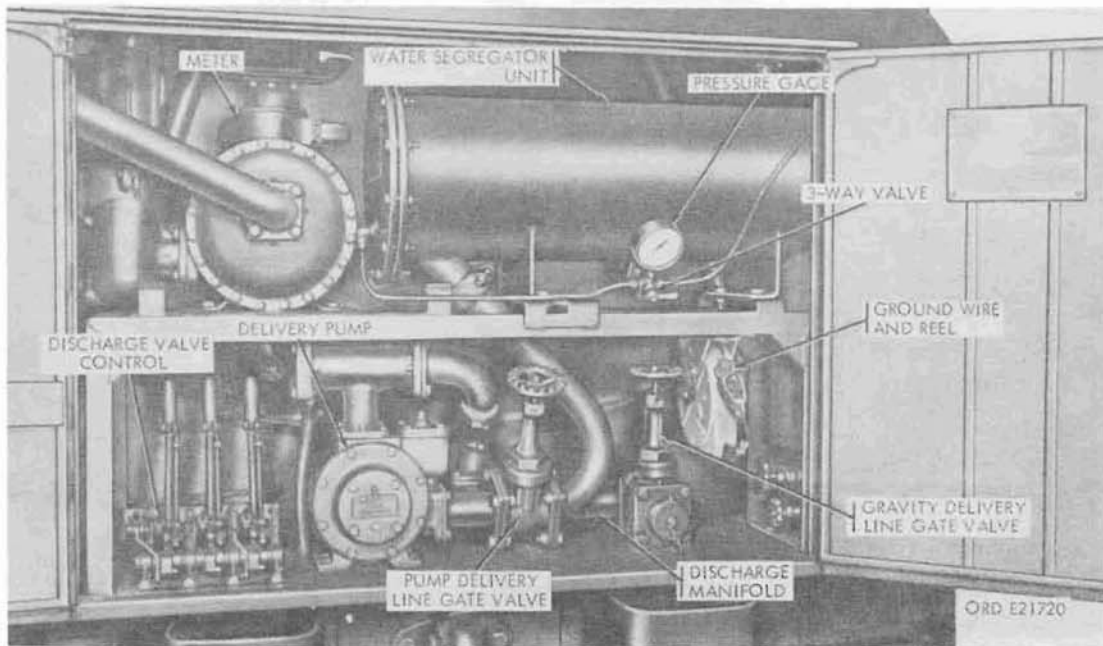
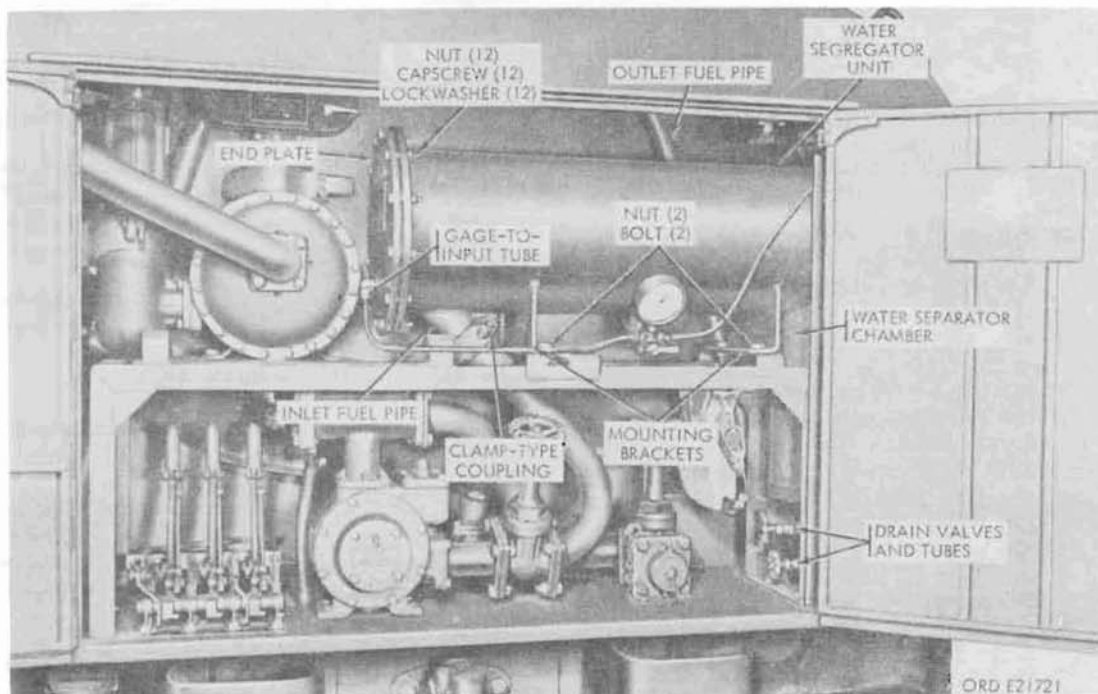
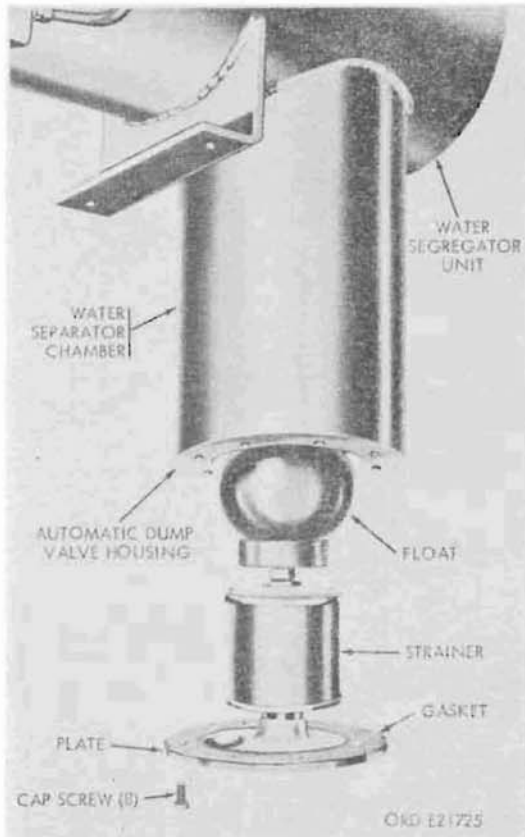

Figure 285. M49C fuel tank body rear compartment components
Figure 286. Water segregator tank disconnect points
Figure 290. Servicing automatic dump valve
- (5) M49C and M49CA1 (fig. 285). The M49C trucks with serial numbers above 140699 (Reo) and 49265 (Studebaker), and the M49CA1, have a combined filter and water segregator unit in-
- (6) Segregator kits. Some of the M49 trucks have been modified by the addition of a water segregator kit (FSN 2540-693-0685). When modified, these trucks are similar to the model M49C trucks (a(5) above).
- (7) Water segregator unit. The water segregator unit (fig. 285) removes foreign matter and moisture from the fuel before it passes through the meter and the discharge hose assembly. The fuel enters through the inlet fuel pipe (fig. 286) through the sediment filter into the water separator chamber. The water, being heavier than fuel, drops to the bottom of the vertical water separator chamber and collects on the bottom. An automatic dump valve, designed to float in water but sink in gasoline, opens periodically to drain the accumulated water from the water separator chamber.
- (9) Differential pressure gage. A pressure gage (fig. 285) is connected to the input and output ends of the water segregator unit through a three-way manually operated air valve. The gage is graduated in 100 divisions, representing a total pressure of 100 pounds-per-square-inch (psi). Turning the handle of the valve to the left (fig. 285) will cause the gage to indicate the flow pressure on the input side of the water segregator unit, and turning the valve handle to the right will cause the gage to indicate the flow pressure on the output side of the segregator. A difference of 15 psi or more indicates the filter is clogged and should be replaced. Turning the valve handle downward shuts off the gage and is the normal operating position.
- (11) Delivery pump (fig. 301). The rotary-type delivery pump assembly consists of a pump unit and a strainer assembly mounted on top of the pump body. An adjustable bypass valve, integral with the pump body, prevents the buildup of excessive and damaging pressures in the pump. The pumps on the M49 trucks have a bottom discharge outlet (fig. 293) and the pumps on the 49C and 49CA1 trucks have a side discharge outlet (fig. 285). Otherwise the pumps are the same.
- (3) Install end plate on end of water segregator unit (fig. 286), using a new gasket. Install the 12 capscrews, lockwashers, and nuts and tighten to 25 pound-feet torque.
- (4) Reposition water segregator unit, replace two bolts, lockwashers, nuts and tank-mounting bracket, and tighten all four mounting bolts to 25 pound-feet torque.
- (5) Connect tubing between water segregator unit end plate and pressure gage.
- (6) Connect inlet and outlet couplings, using attaching bolts and nuts.
- (7) Replace drain valve tubes in drain valves.
- (8) Close water separator chamber drain valve.
262. Water Segregator Unit (Fig. 286)
- (1) Open drain and drain water segregator unit (fig. 286) into an authorized container for combustible liquid.
- (2) Remove drain valves and tubes from lower section of water separator chamber.
- (3) Remove eight capscrews (fig. 290) securing dump valve to water separator chamber housing.
- (4) Lower dump valve assembly from housing as far as possible. Remove and discard gasket.
- (e) Remove four bolts, nuts and lock-washers securing meter to mounting frame (fig. 286).
- (2) **Installation.** Install meter in reverse order of removal. Use new gaskets when installing pipes to meter openings. Coat gaskets with liquid gasket cement or sealer before installation.